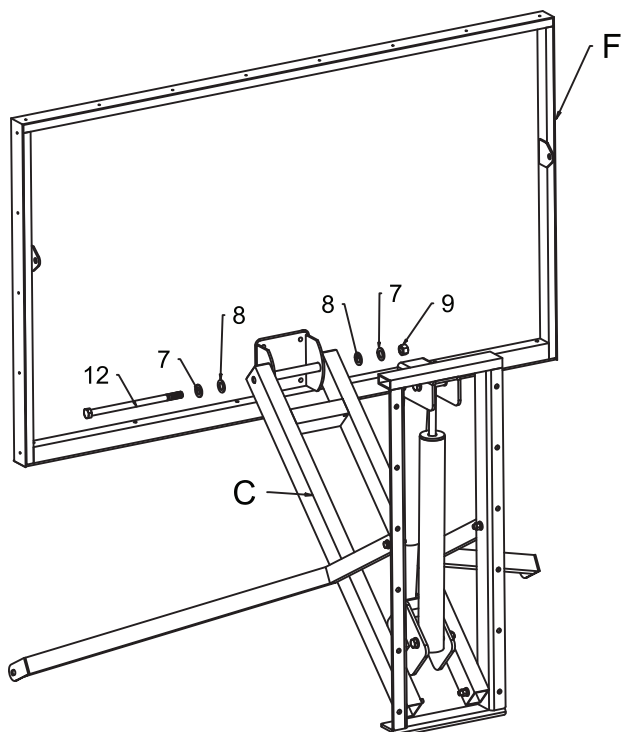

FIG 4
- Crank Extension Arm (C) as low as possible
- Attach Backboard (F) to Lower Extension Arm (C) using hardware shown in FIG 4
- Attach Backboard (F) to Upper Extension Arms (B) using hardware shown in FIG 4